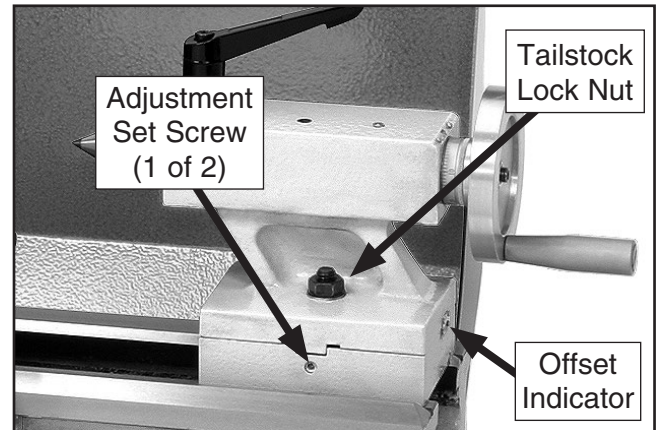

Figure 36. Left offset adjustment.
1. Loosen the tailstock lock nut (see **Figure 36**).